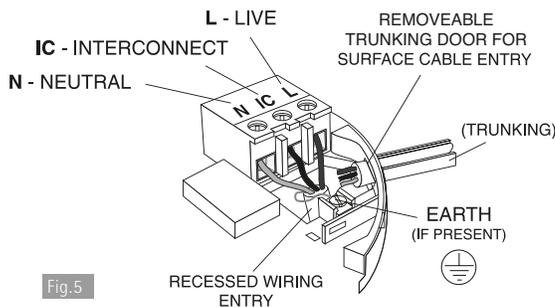

Fig.5
**IC: Interconnect** - see figures 5 and 6 and further information in Section 2.6.
**4.** If the mains wires are recessed, bring the wires through the rear hole in the mounting plate as shown in Figure 5.
(a) position the mounting plate so the cable trunking is as shown in Figure 5.